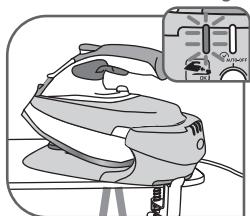
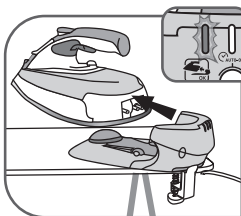

Fig.8
Fig.9
- The flashing green light – fig.8 located on the display panel on the back of the base indicates that the iron is heating up. When the light stops flashing – fig.9, the iron is ready to use.
- Flashing green light: iron is heating up – fig.8.
- Fixed green light: iron is ready – fig.9.